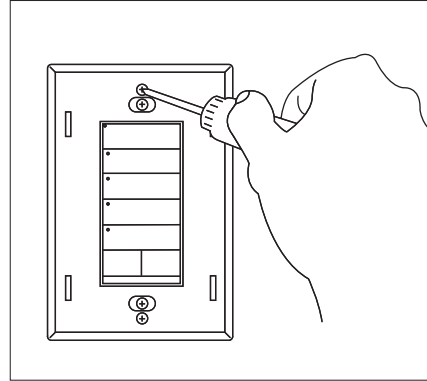

fig. 14
8. Secure Wall Plate Mount to the X2 using the supplied fasteners (see figure 14).